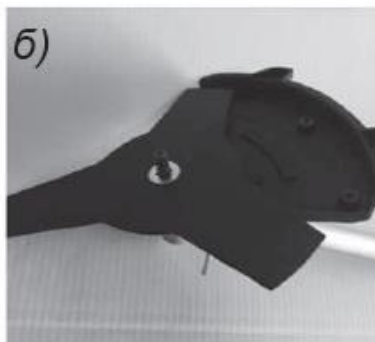

Fig. 4b
3. Install the blade. Ensure the blade rotates correctly. The direction of the rotation arrows on the blade and the guard must match. (Fig. 4b)